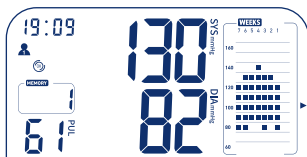

Figure 4
- Press the Memory button again to display the most recently measured values (Figure 4). The saved value display also alternates between showing the date and time of the measurement.